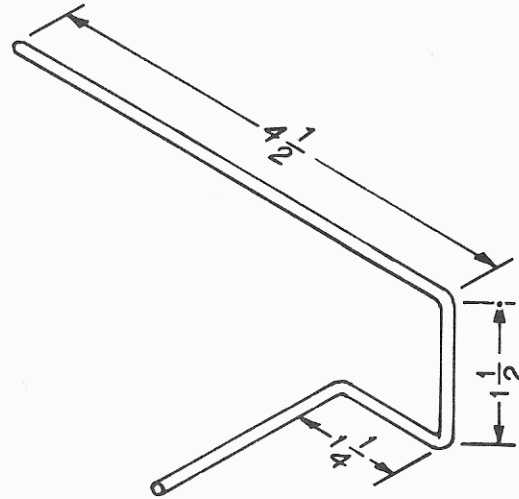

FIGURE 20
- ☑ 9½" heavy bare wire. Form this wire to the dimensions shown in Figure 20.